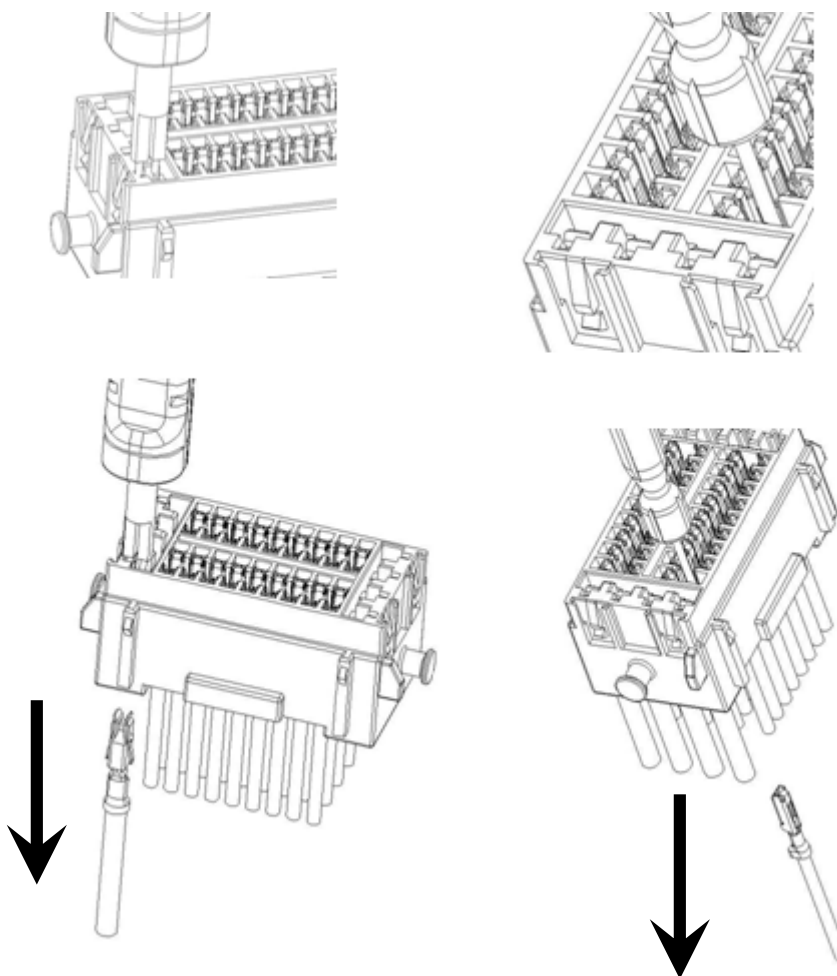

Figure 5
- b) Insert the appropriate tool, see figure 5 to the relevant seats of the cavities, and then pull the contacts in the direction shown by the arrows.